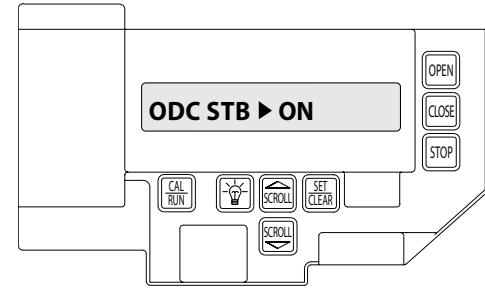

Figure 16
- 2) Press SCROLL  key (up or down) until display reads " ODC STB>ON" or " ODC STB>OFF" **Figure 16**.